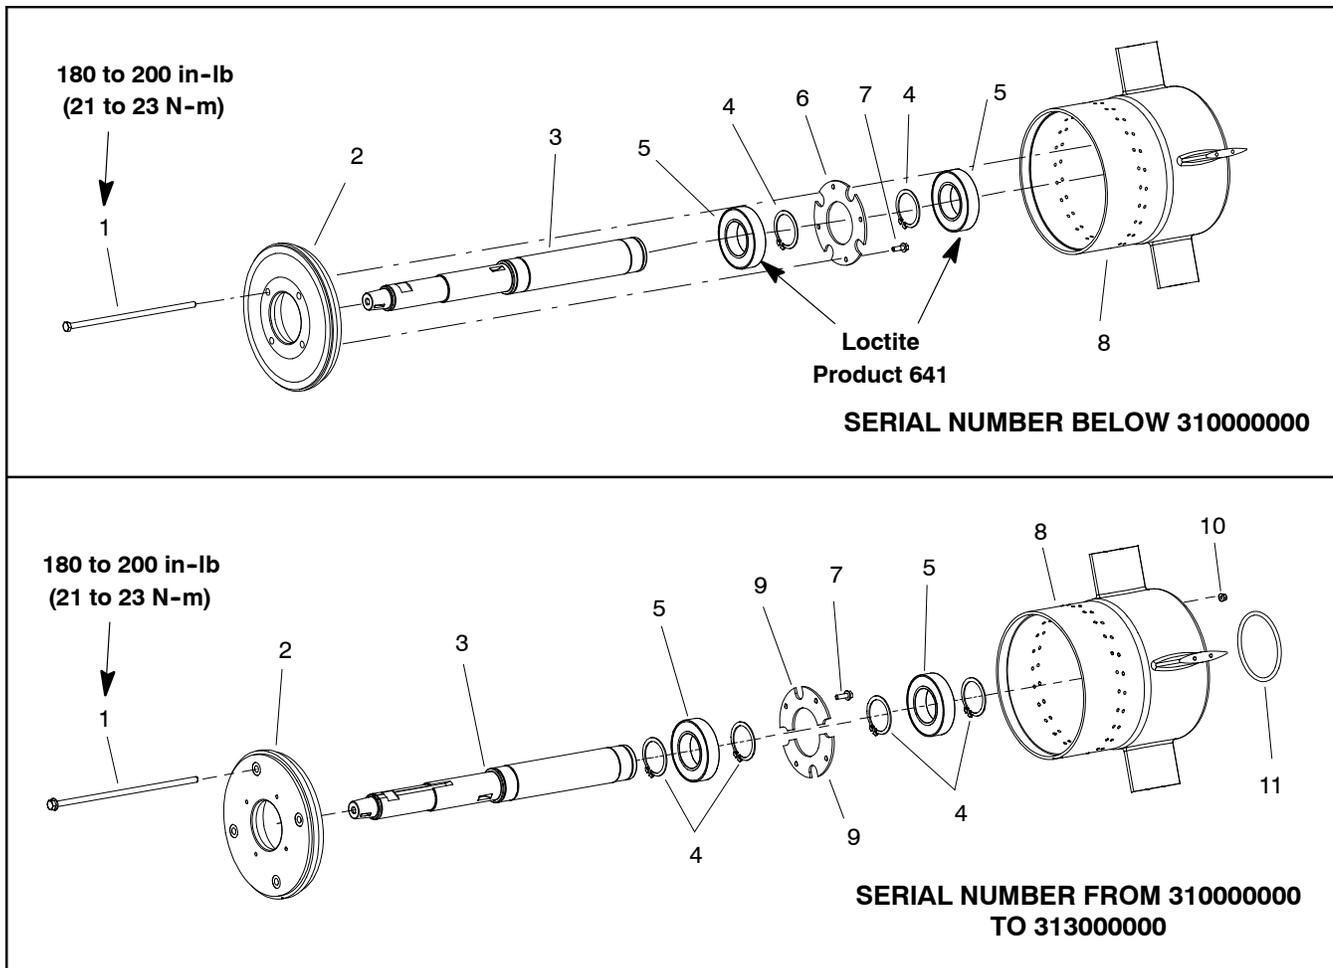

Figure 6
NOTE: Several changes were made to the rotor shaft assembly above machine serial number 310000000. Figure 6 shows both the earlier and later illustration for the inner housing assembly used on machines with serial number below 313000000.
Removal (Fig. 6)
10. Remove four (4) flange head screws (item 7) that secure front bearing cap to bearing holder. Remove bearing holder from rotor shaft assembly.
11. Using Figure 6 as a guide, remove bearings, retaining rings and front bearing cap from rotor shaft as necessary.
12. On machines with serial numbers above 310000000, remove and discard O-ring (item 11) from inner housing.
Installation (Fig. 6)
7. Remove four (4) flange head screws that secure bearing cap (item 4) to inner housing.
8. Carefully slide rotor shaft assembly from inner housing. Note slot in inner housing that locates tab on end cap (item 5) for assembly purposes. Rear cap will remain in inner housing.
9. Using Figure 6 as a guide, remove bearing cap (item 4), end cap (item 5), retaining rings (item 6) and bearings (item 7) from rotor shaft as necessary.
10. Remove and discard O-ring (item 9) from rear cap.
11. If necessary, remove rear cap (item 8) from inner housing.